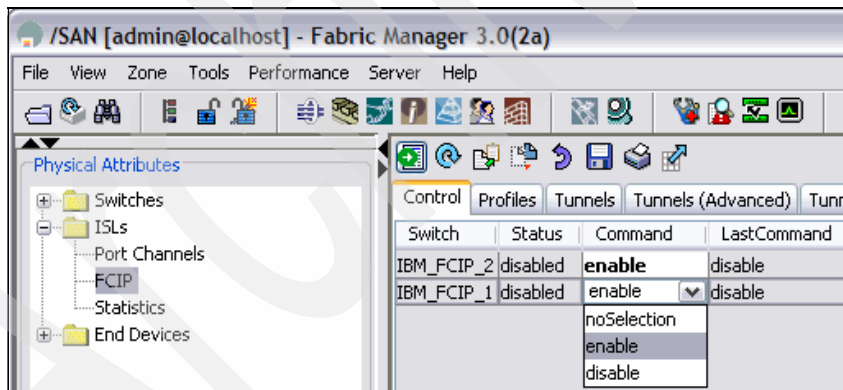

Figure 12-8 FM FCIP Control panel enable
- b. The FCIP Control information tab should now be displayed. Use the pull-down list in the Command column, and select **enable**, as shown in Figure 12-8.